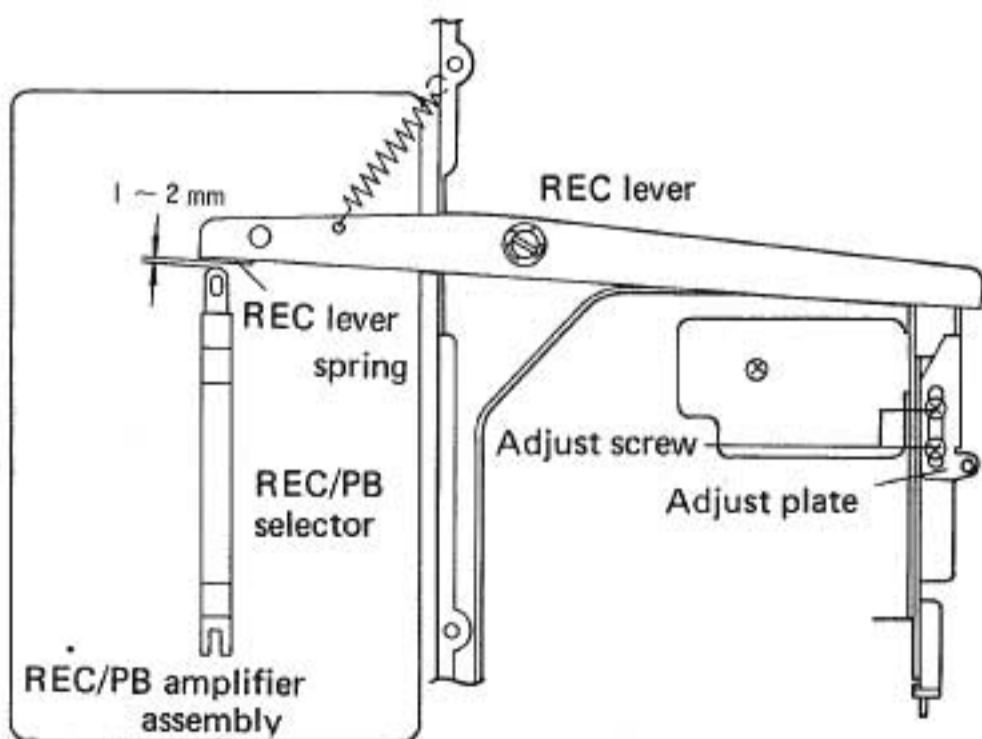

Fig. 20
9.7 REC ACTUATING LEVER (Fig. 20)